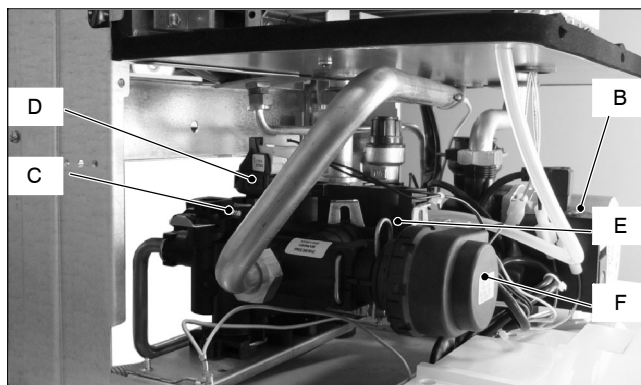

Fig. 3
- 3 Remove the pump B in Fig. 3 (see section 8.3).